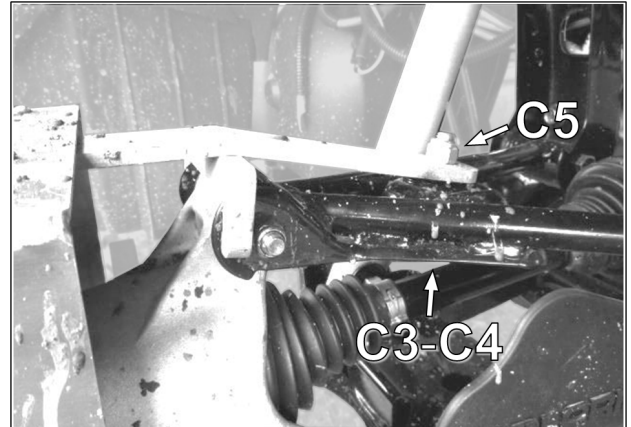

Fig. 16
16. Secure assembly in place by inserting 3/8-16x1 1/4 in. bolt (C3) and washer (C4) under suspension arm and nut (C5) on top. Tighten bolt to 50 N•m [37 lb•ft] of torque. See Fig. 16